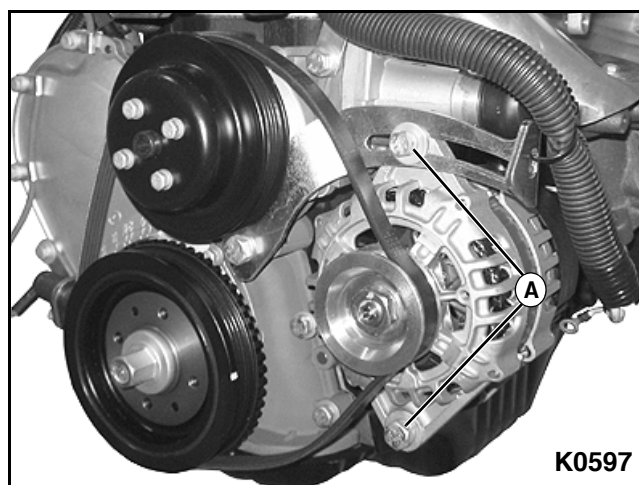

Figure 3-22
1. Install alternator to alternator mounting brackets and install two mounting bolts (A). Do not tighten bolts at this time. **See Figure 3-22.**